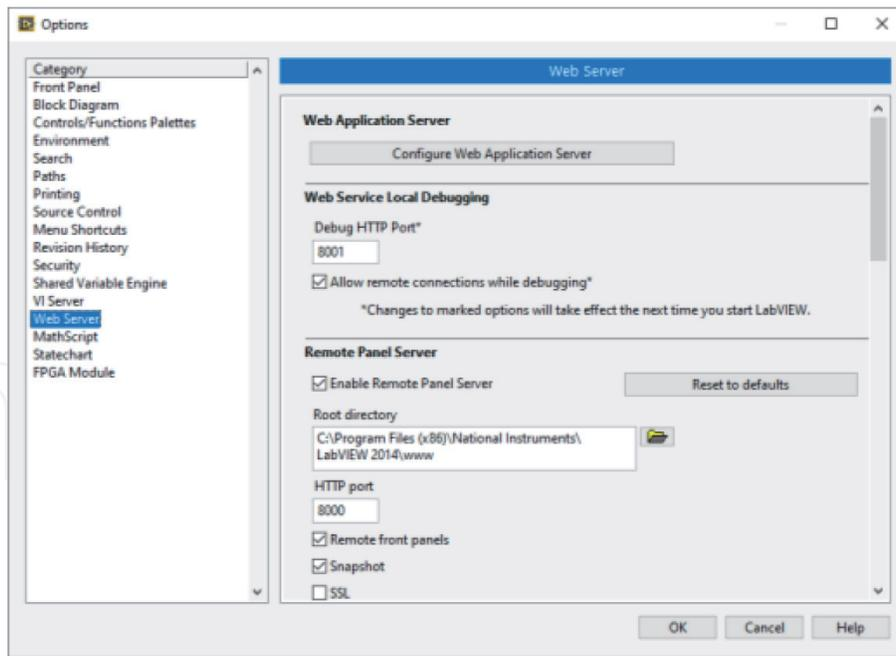

Figure 21.
3. Under the Remote Panel Server section, check **Enable Remote Panel Server** (**Figure 21**).